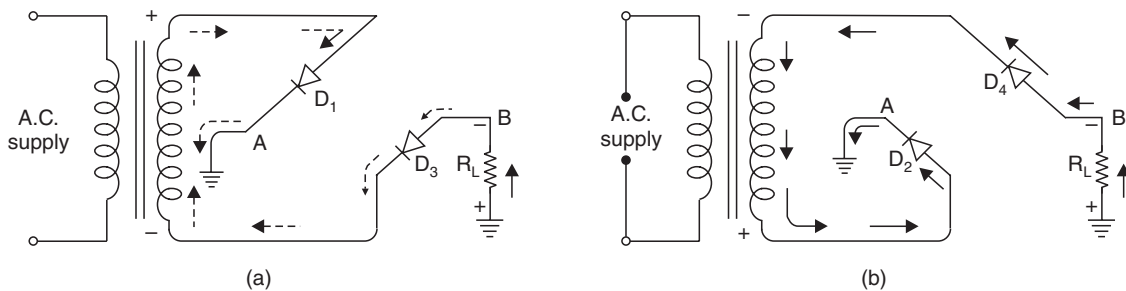

Fig. 53
- During *positive half-cycle* of secondary voltage, the end L of the secondary winding becomes positive and end M negative. This makes D_1 and D_3 forward biased while diodes D_2 and D_4 are reverse biased. Therefore, only diodes D_1 and D_3 conduct. These two diodes will be in series through the load R_L as shown in Fig. 53 (a). The current flows (dotted arrows) from A to B through R_L .
- During the *negative half-cycle* of the secondary voltage, end L becomes negative and M positive. This makes D_2 and D_4 forward biased whereas diodes D_1 and D_3 are reverse biased. Therefore, only diodes D_2 and D_4 conduct. These two diodes will be in series with R_L as shown in Fig. 53 (b). The current flows (*solid arrows*) from A to B through R_L *i.e.*, in the same direction as for positive half-cycle. Therefore, D.C. output is obtained across R_L .